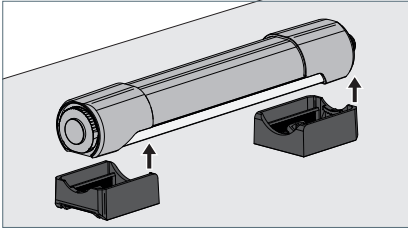

Fig. 8: Removing the luminaire.
- ▶ Turn the luminaire with the protective cover pointing to the mounting surface and remove the luminaire from the holders, see Fig. 8.